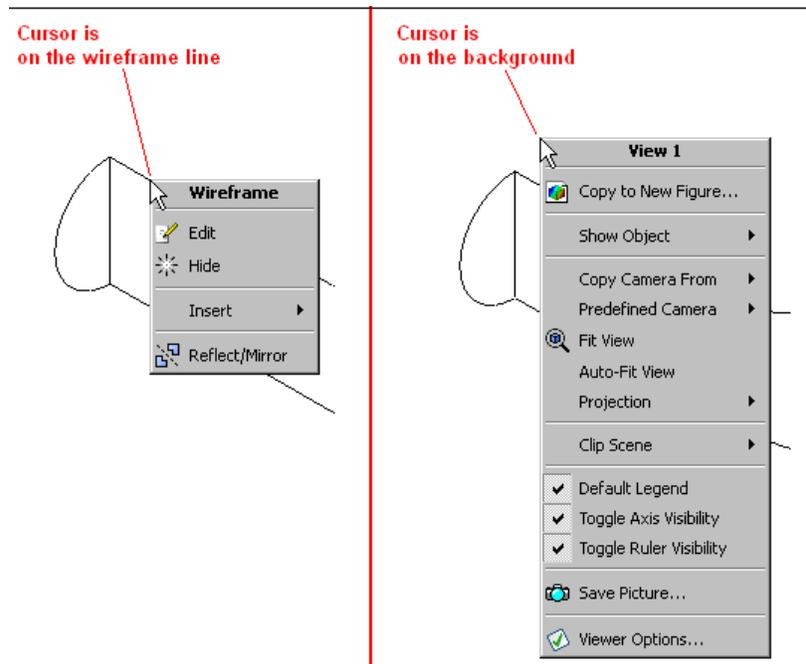

Figure 1.4: Right-click Menus Vary by Cursor Position
2. Right-click on one of the wireframe lines on the symmetry plane. (If you were in select mode, the mouse cursor would have a “box” image added when you are on a valid line. As you are in viewing mode there is no change to the cursor to show that you are on a wireframe line, so you may see the general right-click menu, as opposed to the right-click menu for the symmetry plane.) See Figure 1.4.